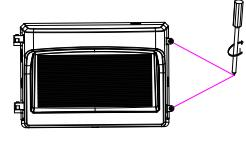

Figure 10
10. Install the cover of the fixture. (Figure 10)